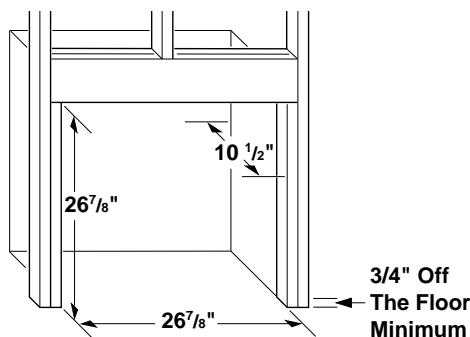
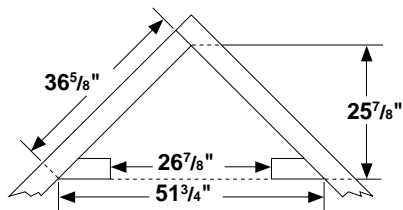

Figure 8 - Rough Opening for Installing in Wall
Figure 9 - Rough Opening for Installing in Corner
1. Frame in rough opening. Use dimensions shown in Figure 8 for the rough opening. If installing in a corner, use dimensions shown in Figure 9 for the rough opening. The height is 26 ⁷/₈" which is the same as the wall opening above.